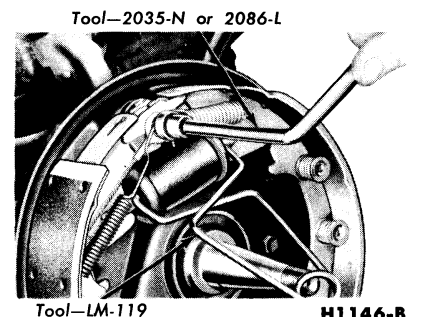

FIG. 7—Retracting Spring Removal
1. With the wheel and drum removed, install a clamp over the ends of the brake cylinder as shown in Fig. 7.
5. Remove the primary shoe to anchor spring with the tool shown in Fig. 7. With the same tool, remove the secondary shoe to anchor spring and unhook the cable eye from the anchor pin.